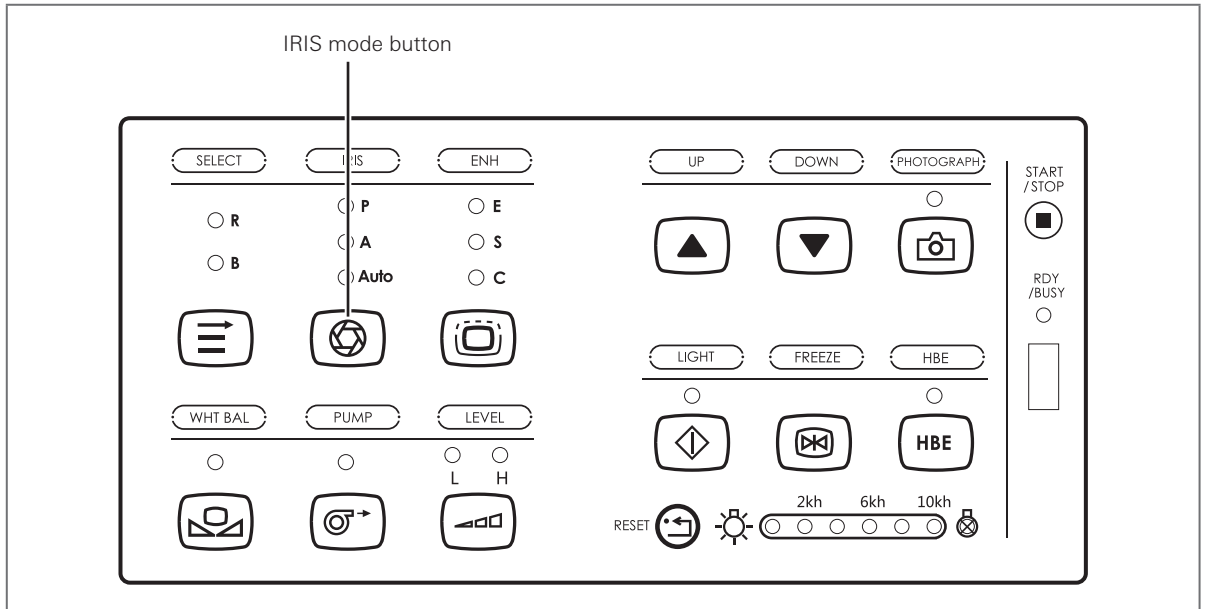

Figure 4.5
1. Press the IRIS mode button or the F2 key on the keyboard to select the IRIS mode (exposure control method) (see Figure 4.5).